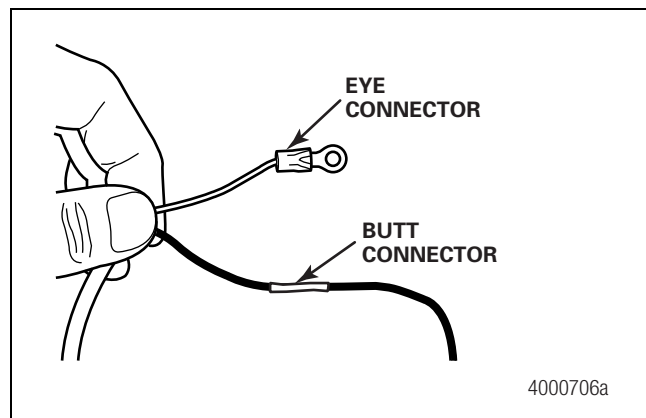

Figure 2.68
9. In the trailer seven-way box, connect the white wire eye connector from the control box to a pin that will supply constant power. Connect the white wire from the light to the ground. Figure 2.68.